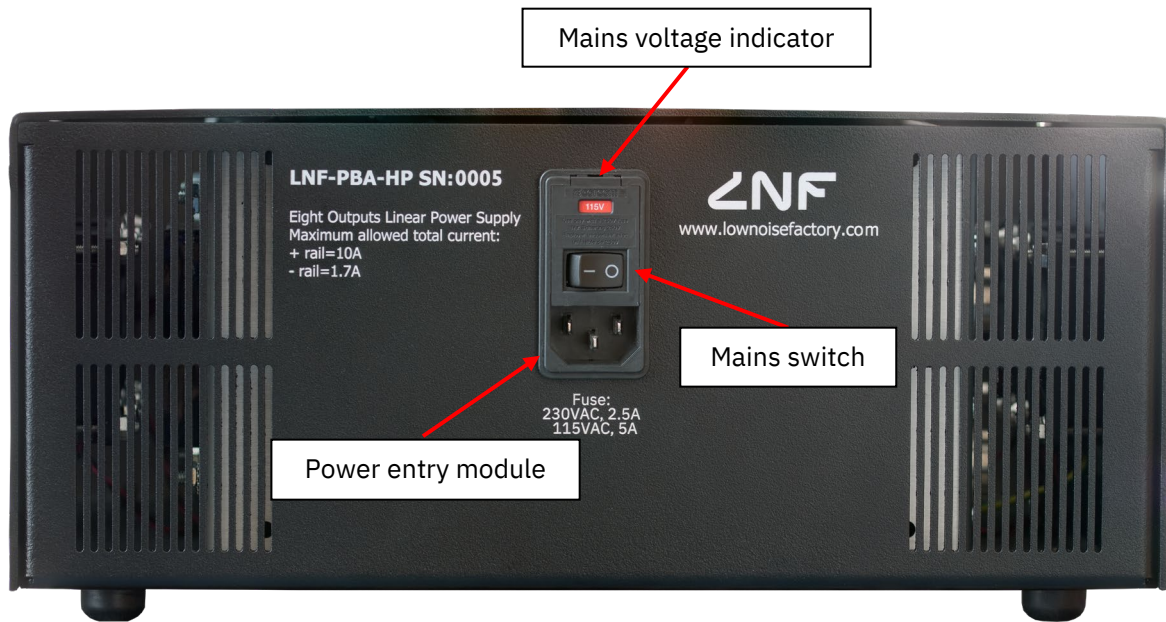

Figure 4 Example: the rear panel when the instrument is configured for 115 VAC.
8. Close the hatch – see Figure 4.
9. Double check that the mains voltage indicator shows the right voltage - Figure 4.